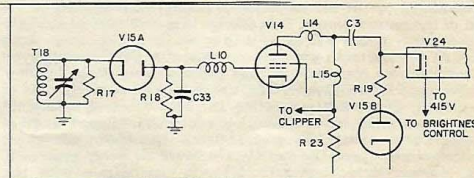

Fig. 5. Video Detector and Amplifier
3. VIDEO DETECTOR AND AMPLIFIER (SEE FIGURE 5)—The video i-f amplifier output is applied to a diode rectifier, V15A, and the diode load, R18, is connected so as to develop a negative-going signal at this point. This signal is amplified by the pentode amplifier, V14, and then applied to the cathode of the picture tube, V24, through the coupling capacitor C3. The remaining diode section of V15 is used to provide d-c reinsertion to the picture at the picture tube.